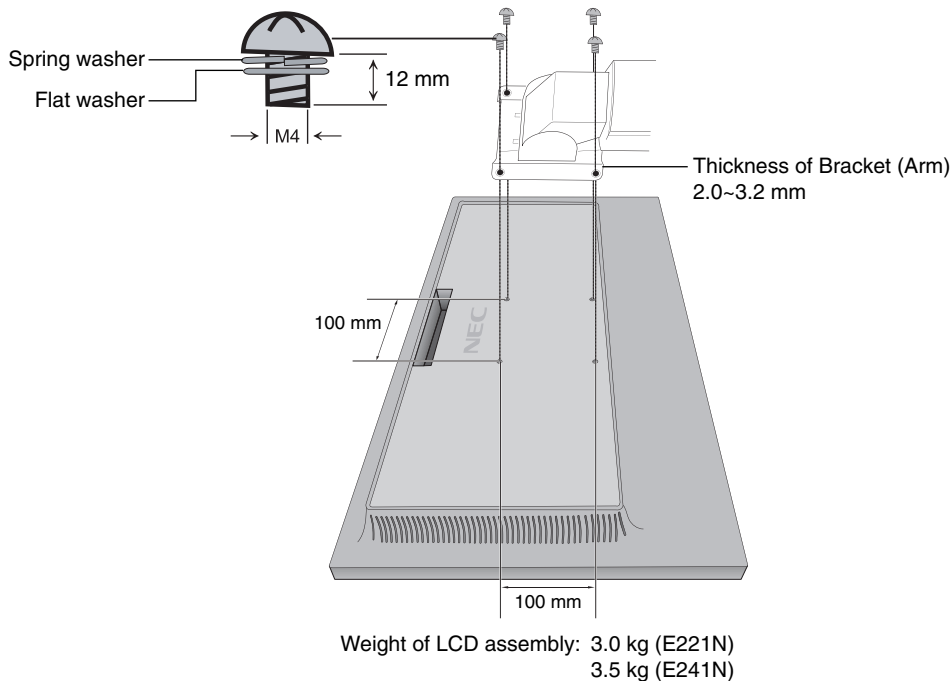

Figure F.1
2. Use the 4 screws removed from the stand or the specified screws (**Figure F.1**).
Caution: Use **ONLY** the screws (4 pcs) that were removed from the stand or the specified screws (**Figure F.1**) to avoid damage to the monitor or stand.